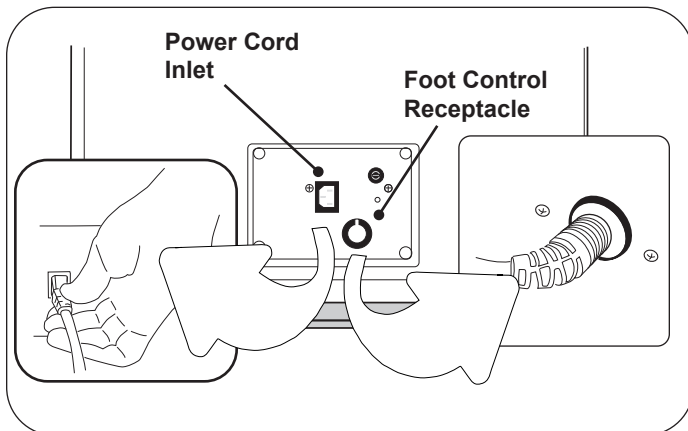

Figure 8. Power Cord and Foot Control Plug-ins
- Insert the foot control cord into the receptacle at the bottom of the rear panel (Figure 8). Make sure the tab on the plug is aligned with the slot in the receptacle.
- Plug the power cord into the receptacle at the bottom of the rear panel (Figure 8). Plug the power cord into a 115 Volt or 230 Volt receptacle, depending on your configuration.